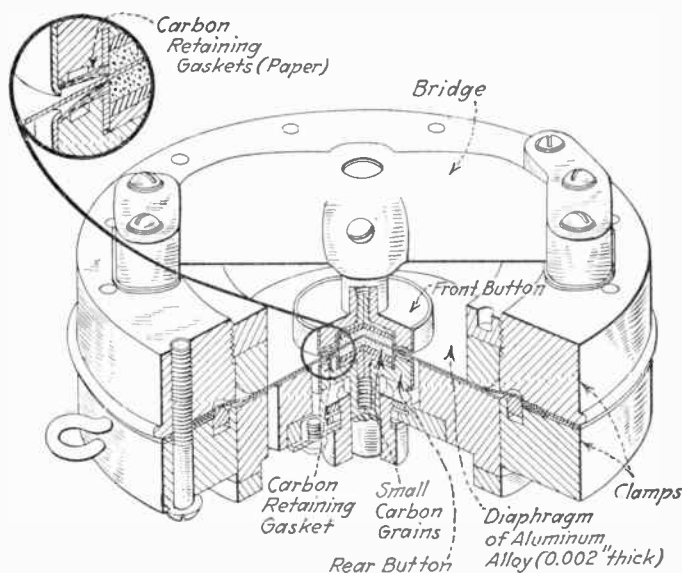

FIG. 82.—Cross-sectional view of carbon microphone.
**Ans.** The construction of a high-quality carbon microphone is illustrated in Fig. 82 and Fig 82A.